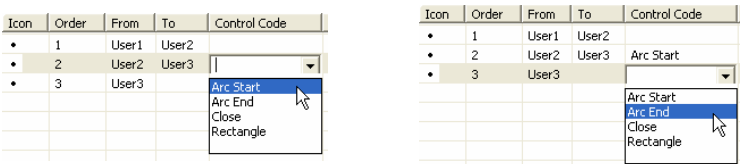

Figure 5-39. Selecting Control Code for Start and End Point of the Arc
3. In the right panel of the *Linework* tab, click the Control Code cell for the line segment and click *Arc Start* (Figure 5-39). Press **Enter** or click outside the cell.
4. Click the Control Code cell for the last point in the line and click *Arc End* (Figure 5-39). Press **Enter** or click outside the cell.
4. Click the Control Code cell for the last point in the arc and click *Arc End* (Figure 5-39). Press **Enter** or click outside the cell.